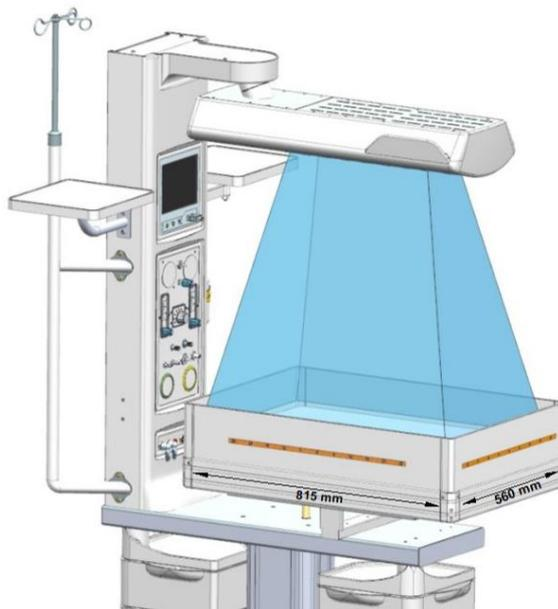

Figure 8
- ❖ Always keep the baby in the effective surface area. (See Figure 8)